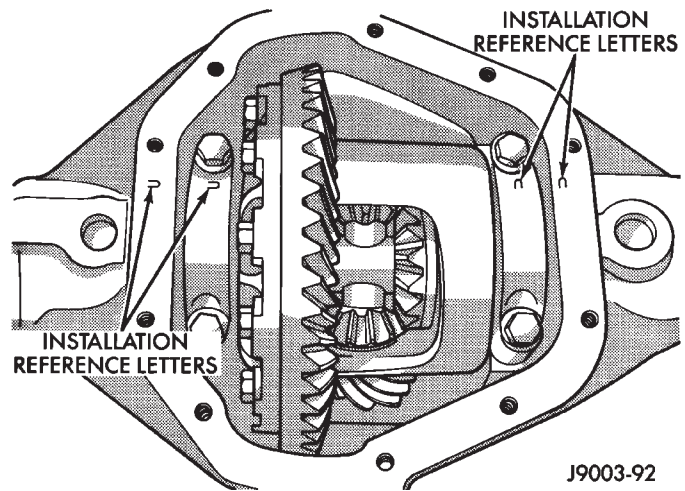
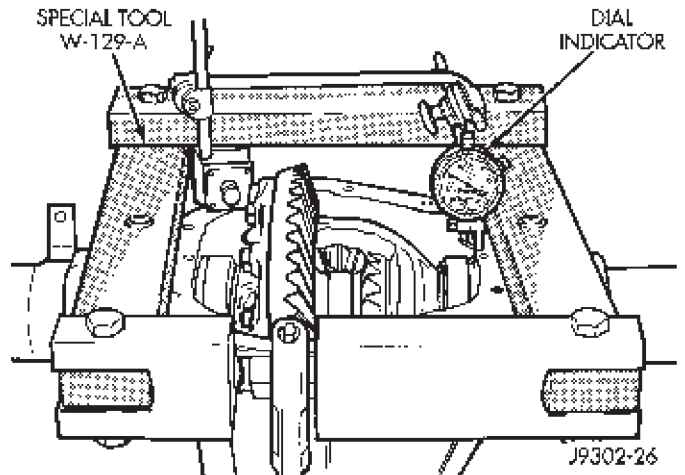
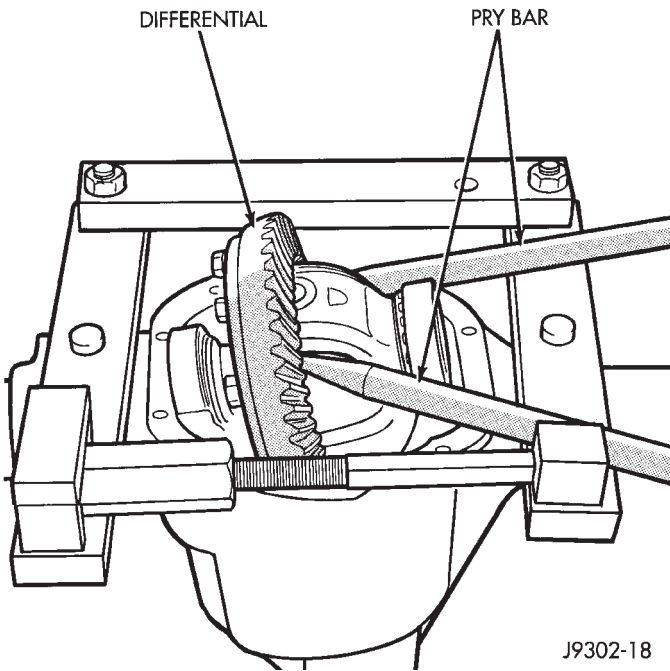

Fig. 10 Bearing Cap Identification
Fig. 11 Spread Differential Housing
Fig. 12 Differential Removal
(1) **Note the installation reference letters stamped on the bearing caps and housing machined sealing surface (Fig. 10).**
(2) Remove the differential bearing caps.
(3) Position Spreader W-129-A with the tool dowel pins seated in the locating holes (Fig. 11). Install the holddown clamps and tighten the tool turnbuckle finger-tight.
(4) Install a pilot stud at the left side of the differential housing. Attach Dial Indicator to housing pilot stud. Load the indicator plunger against the opposite side of the housing (Fig. 11) and zero the indicator.
(5) Separate the housing enough to remove the case from the housing. Measure the distance with the dial indicator (Fig. 11).
(6) Remove the dial indicator.
(7) Pry the differential case loose from the housing. To prevent damage, pivot on housing with the end of the pry bar against spreader (Fig. 12).
(8) Remove the case from housing. Mark or tag bearing cups and outboard shim/spacer (selected thickness) indicating which side they were removed. Remove spreader from housing.